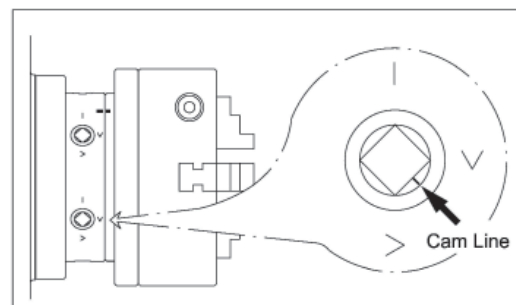

Figure 30. Cam and lines.
7. Turn a camlock with the chuck key until the cam line falls between the "V" marks shown in Figure 30.